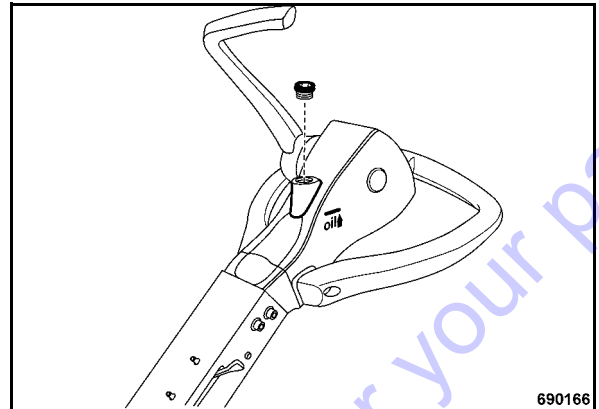

Fig. 80
- Screw in and tighten the plug (Fig. 80).